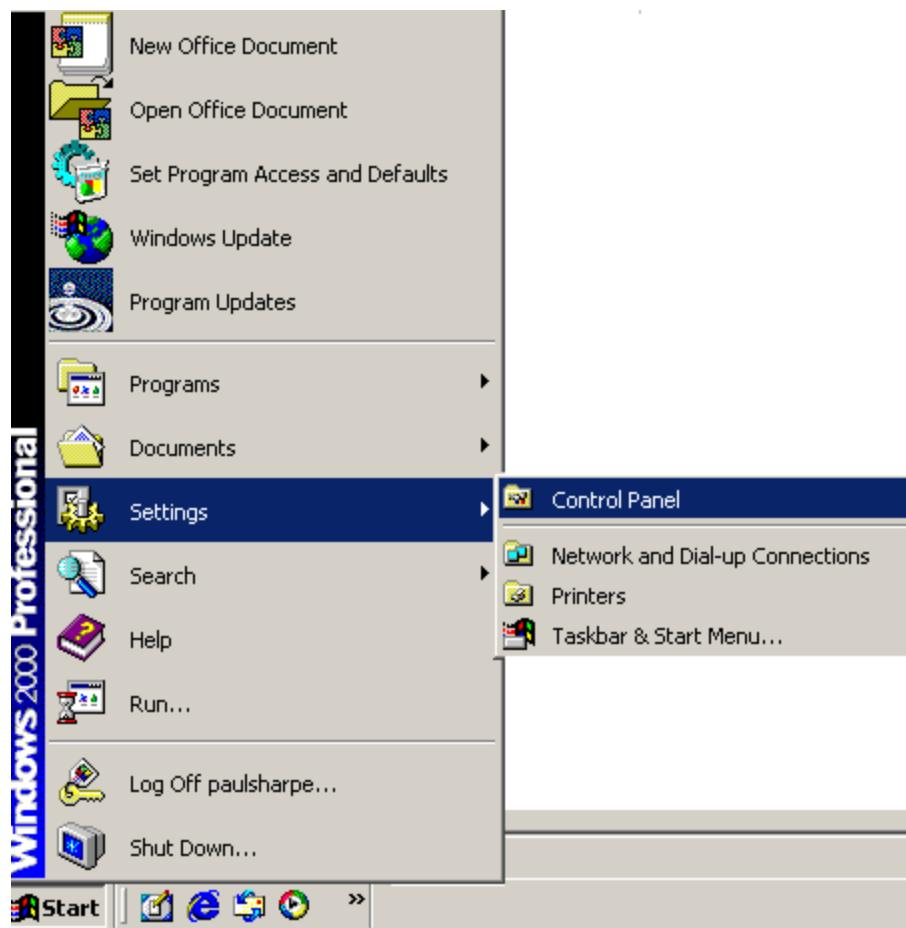

Figure 7-14: Access Windows Control Panel
Step 2: Open **Windows Control Panel**. (See **Figure 7-14**)